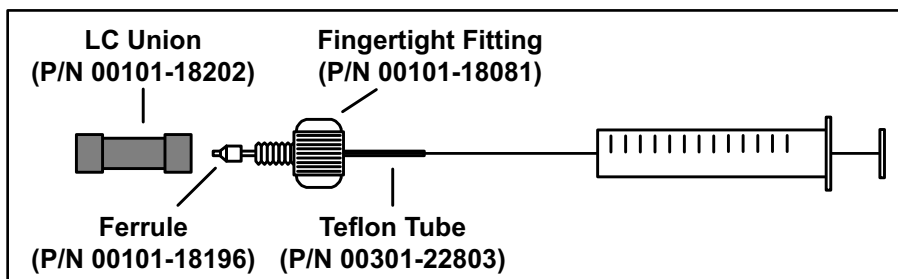

Figure 21. APCI/APPI/MS plumbing connections for the syringe pump
1. Connect a 4 cm (1.5 in) segment of Teflon tubing with a (brown) Fingertight fitting and a (brown) ferrule to the (black) LC union. (See Figure 21.)